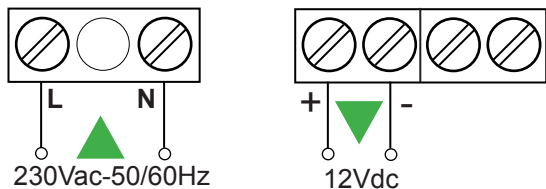

Fig.4
- At 230Vac-50/60Hz using the terminals "L" and "N" (Fig.4).